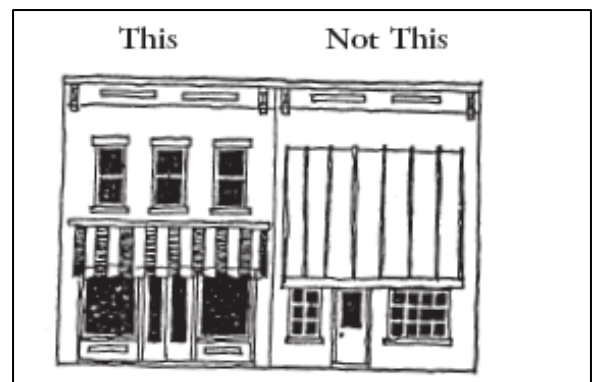

Figure-7. Awning Proportions.
- Upper level awnings and canopies look best when protecting or accenting upper floor windows (Figure-7).